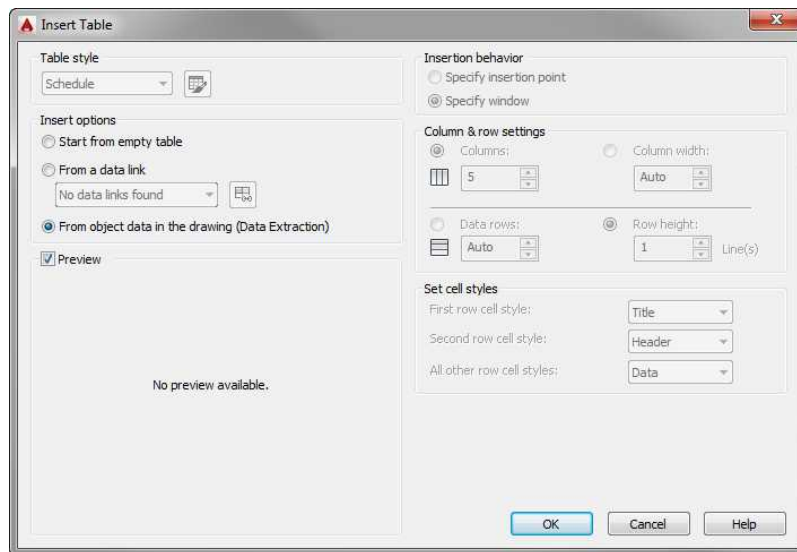

FIGURE 9.74: Creating a new data-extraction table
3. Select the From Object Data In The Drawing (Data Extraction) option in the Insert Options group of the Insert Table dialog box, as shown in Figure 9.74. Then click OK.